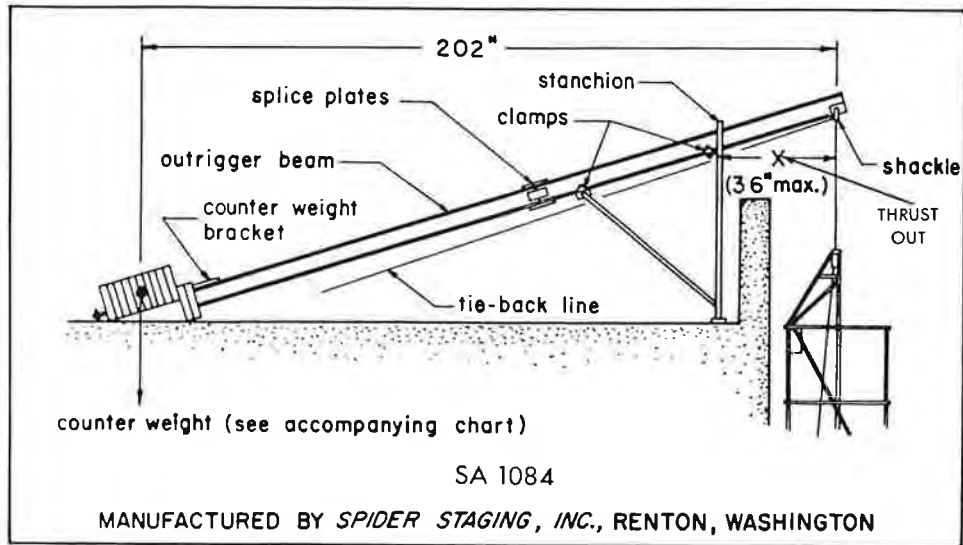

Figure 45
**Portable Roof Outrigger SA-1084 and SA-1088 (Figs. 45 and 47)**